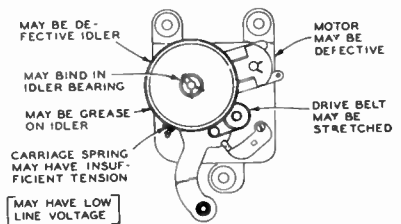

Figure V26.
15. **"Wow" Or Speed Variation:** See figure V26.